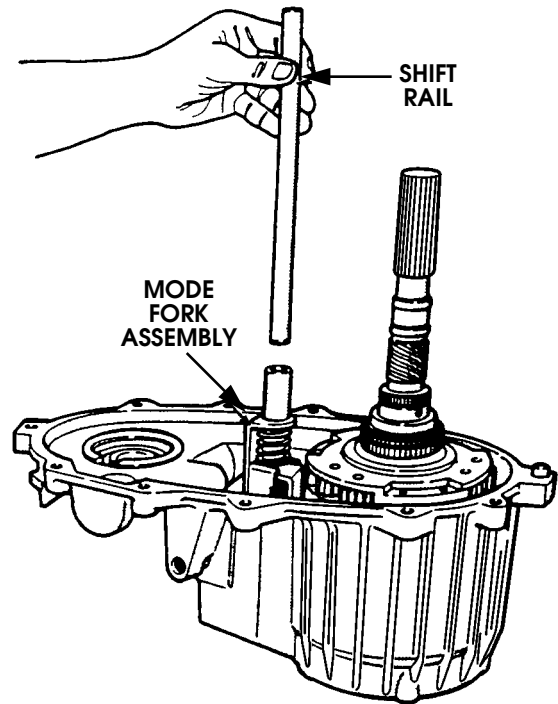

Figure 5-99: Shift Rail Removal/Installation
- 20. Remove shift rail (Figure 5-99).